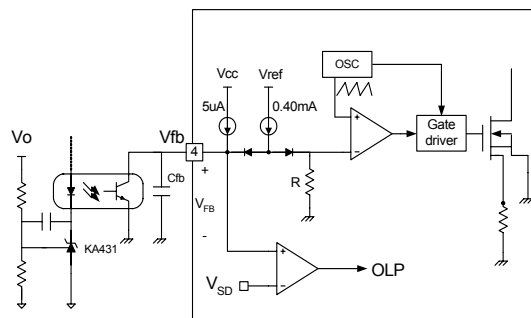

Figure 6. PWM and Feedback Circuit
2. Feedback Control : The FSDM311 is the voltage mode controlled device as shown in Figure 6. Usually, an optocoupler and KA431 type voltage reference are used to implement the feedback network. The feedback voltage is compared with an internally generated sawtooth waveform. This directly controls the duty cycle. When the KA431 reference pin voltage exceeds the internal reference voltage of 2.5V, the optocoupler LED current increases, the feedback voltage Vfb is pulled down and it reduces the duty cycle. This will happen when the input voltage increases or the output load decreases.